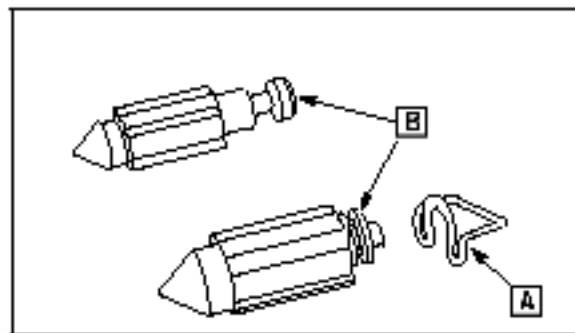

Fig. 88
Install spring (A) to groove in fuel needle valve ([B] Fig. 88).